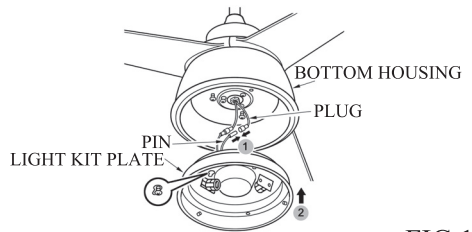

FIG.16
2. Plug in the light wires from fan and the light wires from light kit plate. (see Fig.16)